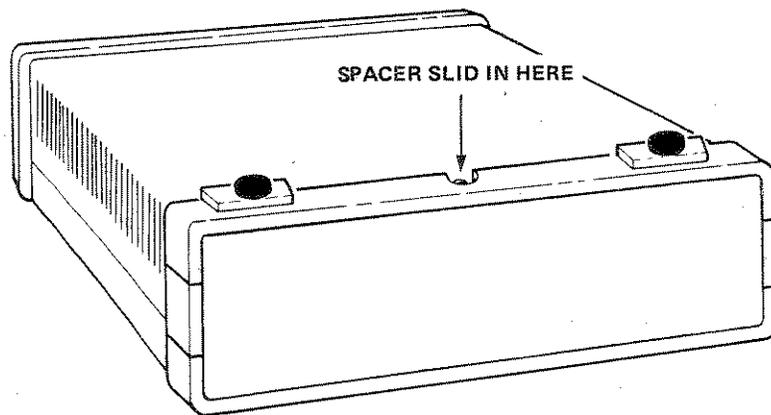

Figure B-2 Inverting the Front Panel Trim
2. Invert the trim so that the rubber feet are uppermost and replace the trim on the Extender (Figure B-2).
2. Invert the trim and replace it on the Extender (Figure B-2).